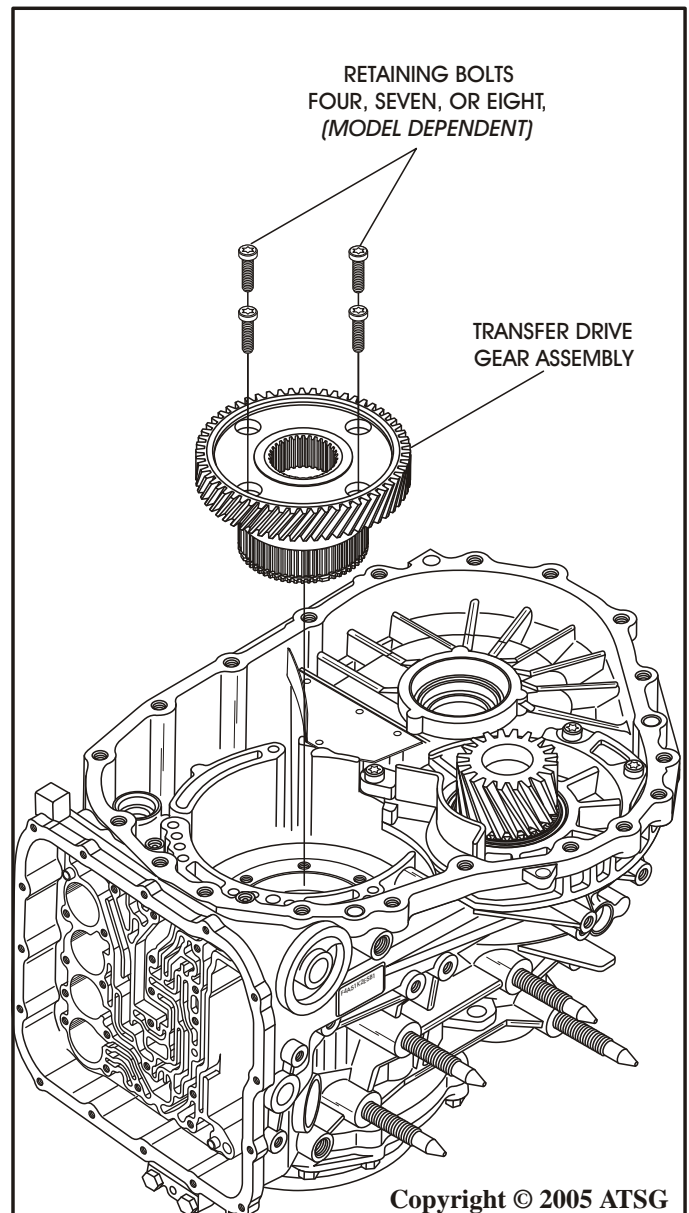

Figure 62
83. Remove the transfer drive gear assembly, as shown in Figure 62.